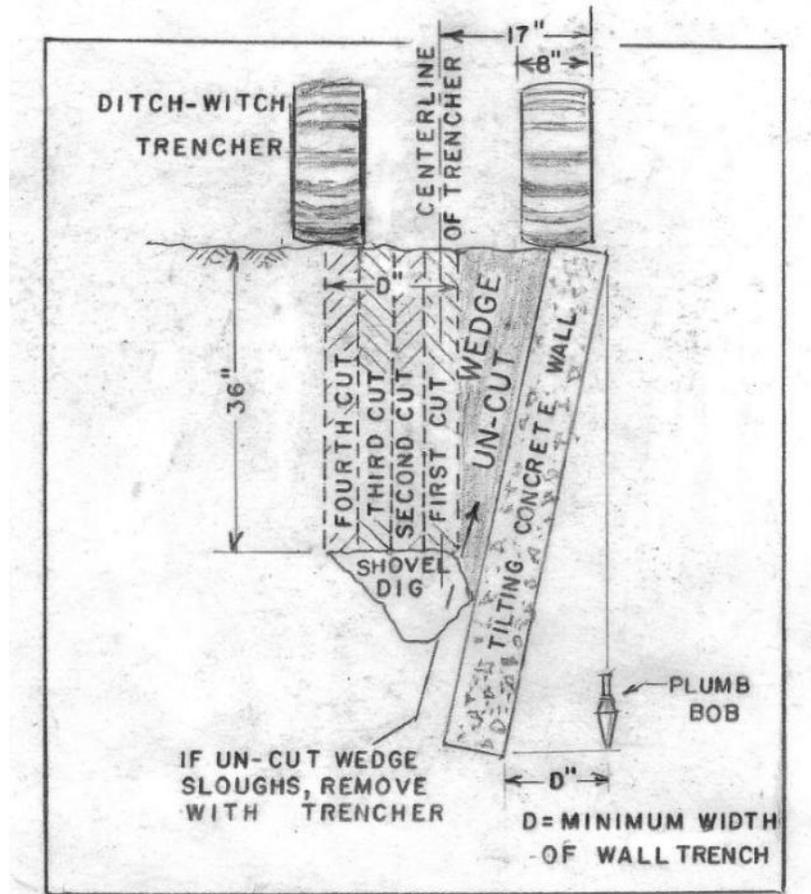

Figure 7 - Wall Pressure Relief Trenching
*But, what is the minimum necessary trench width that is sufficient to permit a full up-righting of the wall? To determine it, simply drop a plumb-bob vertically from the outside top edge of the wall to the ground. Now measure the horizontal distance from the plumb-bob to the wall. (See Figure 7 - Wall Pressure Relief Trenching, page 25) This is the number of inches that the wall-top must be free to move rearward to become vertical; ----thence it is also the minimum width of the trench! Remember that you'll be unable to widen, even slightly, the trench width after the rental trencher is returned.*
*Move back up to the high side of the wall and place a stake at the measured distance 'D' plus 15," plus 4" from the back surface of the wall. (Figure 7) The 15" is the width of the 'un-cut' earthen wedge left by the trencher and lying against the rear face of the wall. The extra 4" should help thwart Murphy's Law and give you a little additional trench width in which to work. Add more stakes at this 'D'*
**NOTE: Do not trench below the depth of the bottom of the wall or its footing. This will undermine the wall's stability. (See Figure 7 - Wall Pressure Relief Trenching, page 25.)**